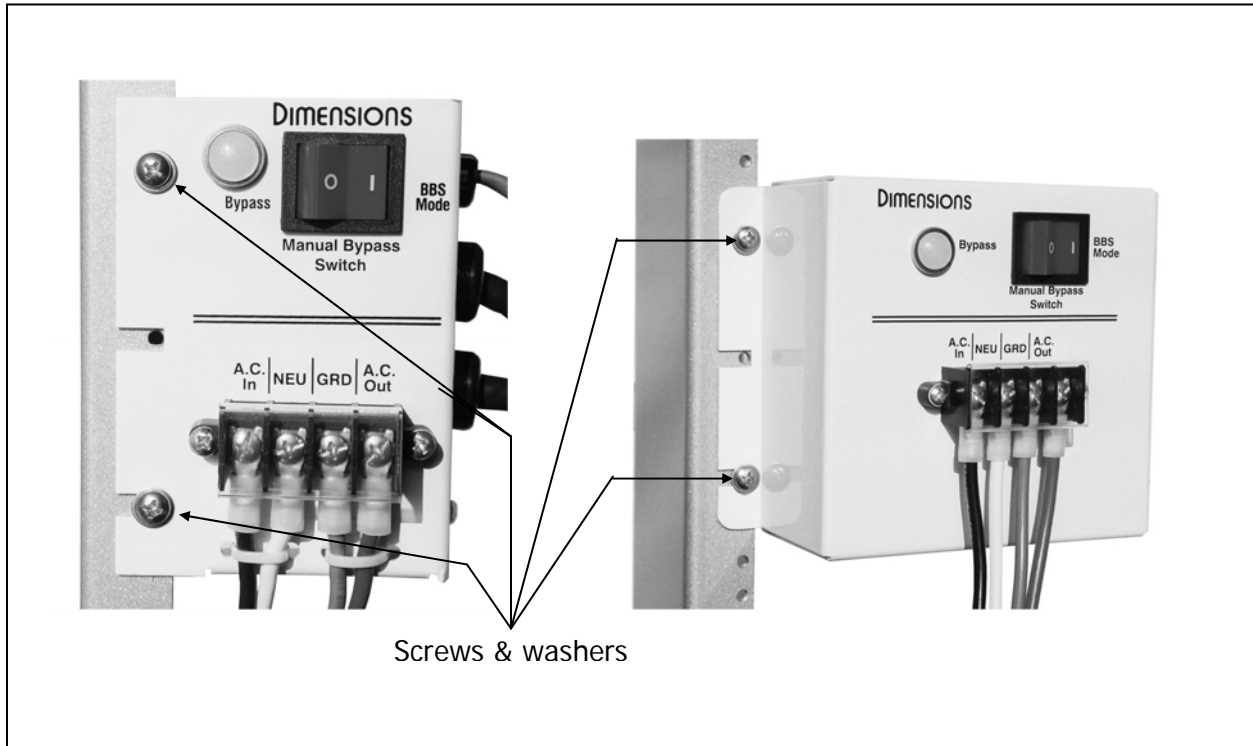

FIGURE 5: CMBPS-30ATR Cabinet rail mounting (511016-1 and 511016-2)
- b) Using the washers and bolts provided fix the combined manual bypass switch - 30A transfer relay as shown on Figures 5 below.